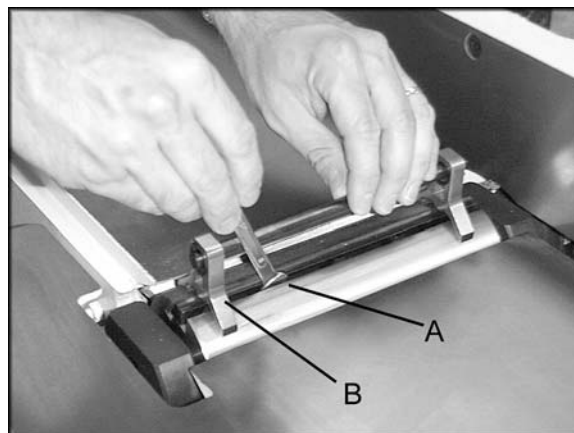

Figure 19
7. If blade is higher or lower at one point, slightly loosen five screws (A, Fig. 19) by turning clockwise as viewed from the infeed table.
8. Place the knife setting gauge (B, Fig. 19) on the cutterhead over the blade. Continue loosening the five screws until the springs push the knife up into contact with the gauge. Alternately tighten the five screws to hold each blade in place.